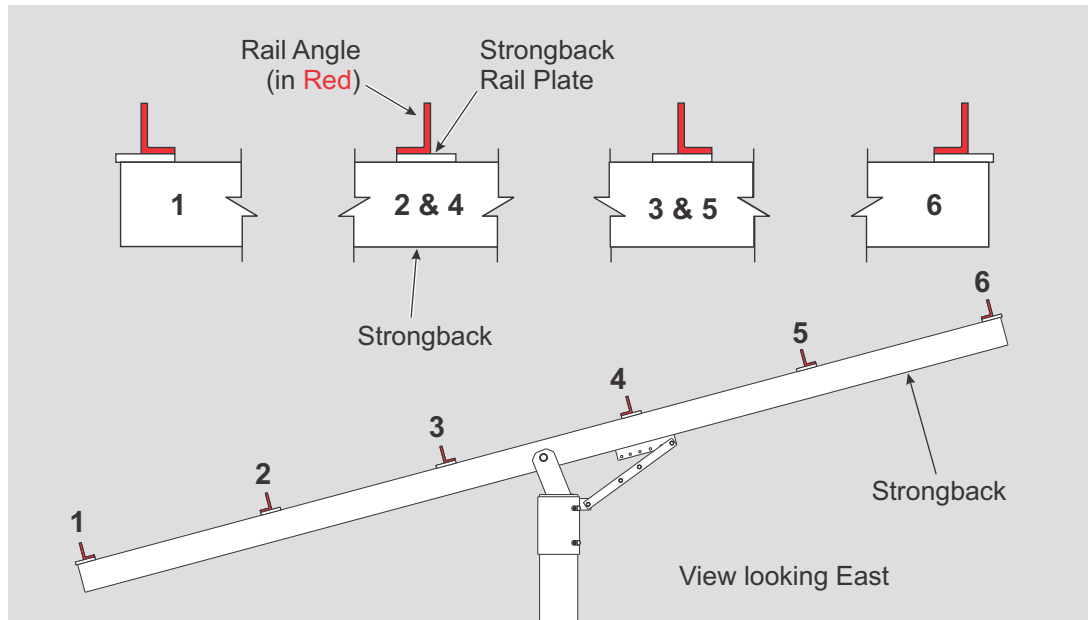
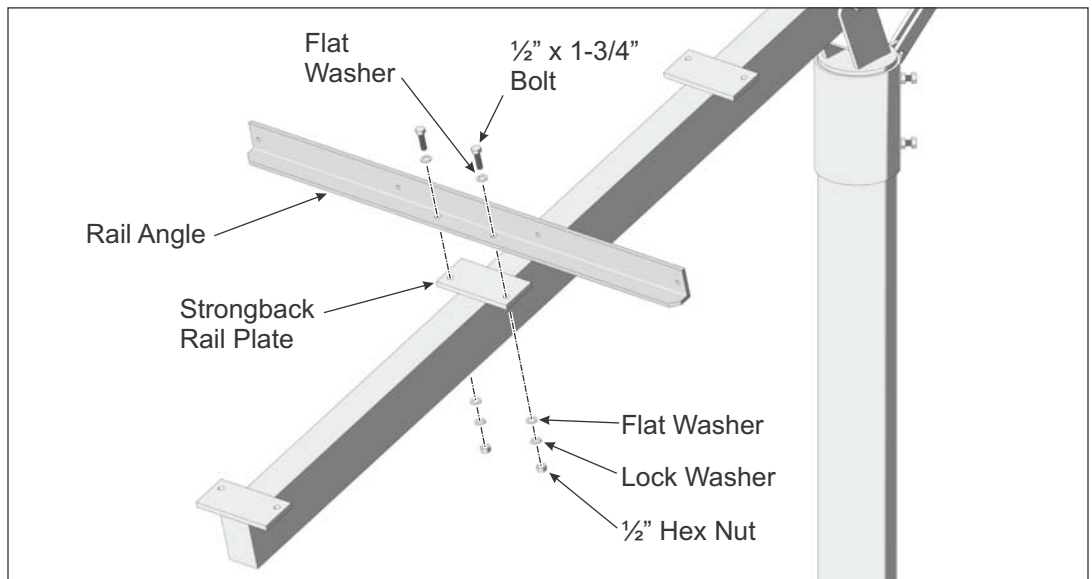

Figure 3-1: Orientation of Rail Angles to Strongback
Figure 3-2: Installing Rail Angles to Strongback
Rail Angles run in an E-W direction and are secured to the rail plates (welded to the Strongback) using the 1/2" x 1-3/4" bolts and hardware. Proper orientation of the Rail Angles to the Strongback is very important, follow these instructions carefully (see Figures 3-1 & 3-2). There are 6 Rail Angles to install.
- A. Referring to Figure 3-1 for orientation of the Rail Angles position the Rail Angle on the Rail Plate of the Strongback and secure with 1/2" x 1-3/4" bolts and hardware. Finger tighten for now. (See also Figure 3-2)